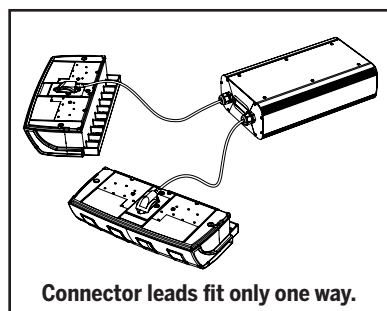

Figure 2
3. Plug the connector leads from the charger into the terminals of the two batteries. (The connector leads are designed to fit only one way. See Figure 2.)